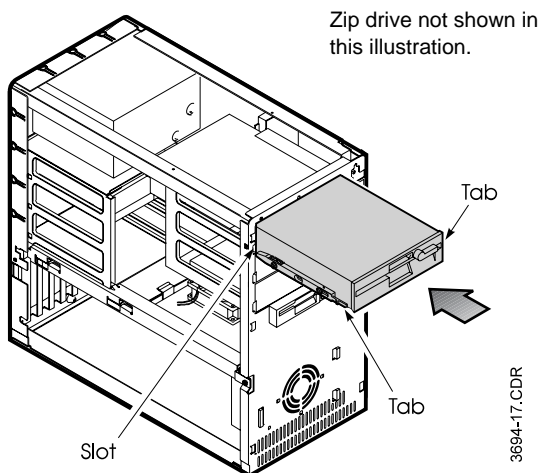

Figure 16. Inserting a Drive Into A Drive Bay
5. Slide the drive into the bay, until the tabs on the guide rails snap into the slots on the drive bay (Figure 16). To remove a drive, press the tabs on the guide rails until the drive slides freely.